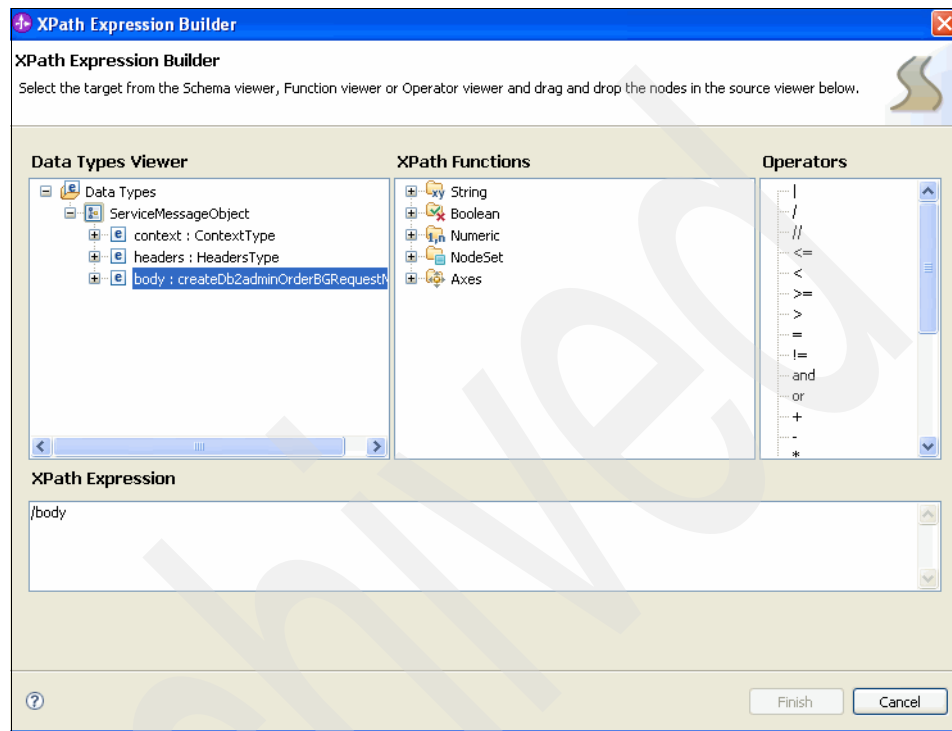

Figure 6-91 XPath Expression Builder window
3. Define the business object that is emitted by the Event Emitter primitive. In the XPath Expression Builder window (Figure 6-91), expand **ServiceMessageObject** → **body**. Click **Finish**.